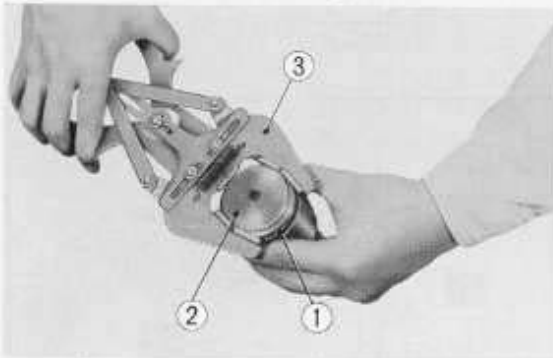

Fig. 3.50 Removing the piston ring
5. Remove the piston rings ① from the piston ② by using a ring removing tool (special tool) ③. If no tool is available, the rings may also be removed by hand, by spreading the ring at the opening with both hands, the ring should not be twisted. (Fig. 3.50)